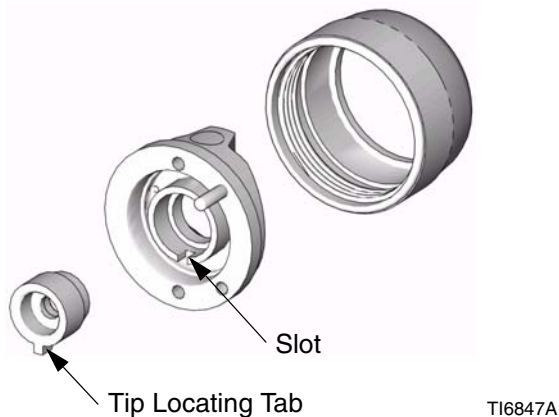

FIG. 5
Install a spray tip in the gun. Ensure that the tip locating tab is positioned in the slot of the air cap. See FIG. 5. Tighten the air cap retaining ring (6) firmly by hand to ensure a good seal between the tip gasket and the diffuser (5).